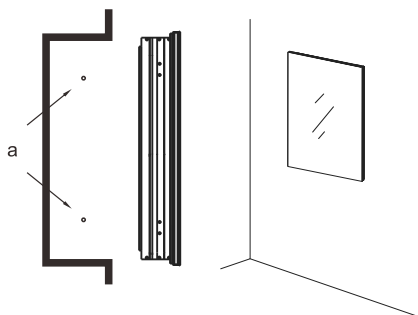

Fig. 18
- 2.0 Remove the mirror cabinet, drill the fixing hole in the wall in the marked position, and place the expansion plugs (Fig.18).